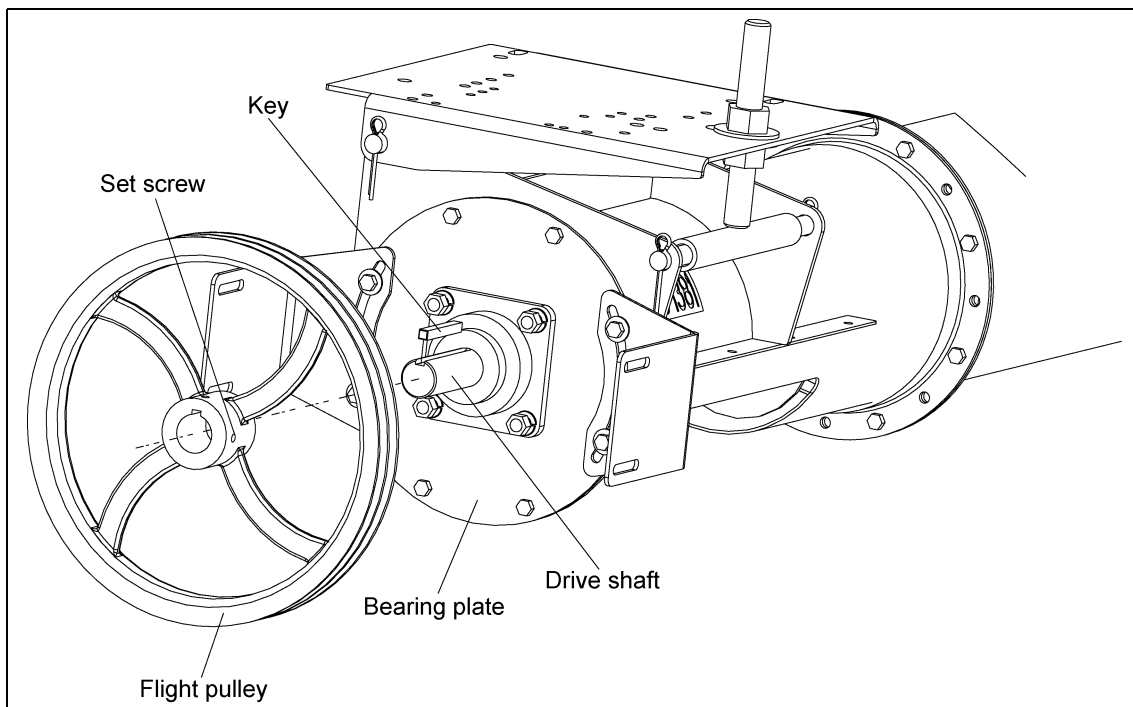

Figure 4I
3. Once the pulley is appropriately positioned, tighten the set screw with a hex head wrench to secure it to the drive shaft. (See Figure 4I.)